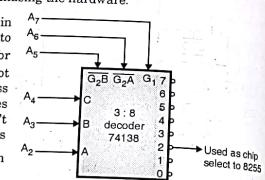

Fig. 16.10.1 : Chip select decoder logic
Step 3 : In this case we are using $\overline{IO/M}$ in chip select decoder logic. The A_2 to A_{15} address lines are to be used for generation of chip select. It will not be possible to use all 14 address lines to 3:8 decoder. So some lines will remain unconnected i.e. don't care. Suppose the address lines and $\overline{IO/M}$ are connected as shown in Fig. 16.10.1.